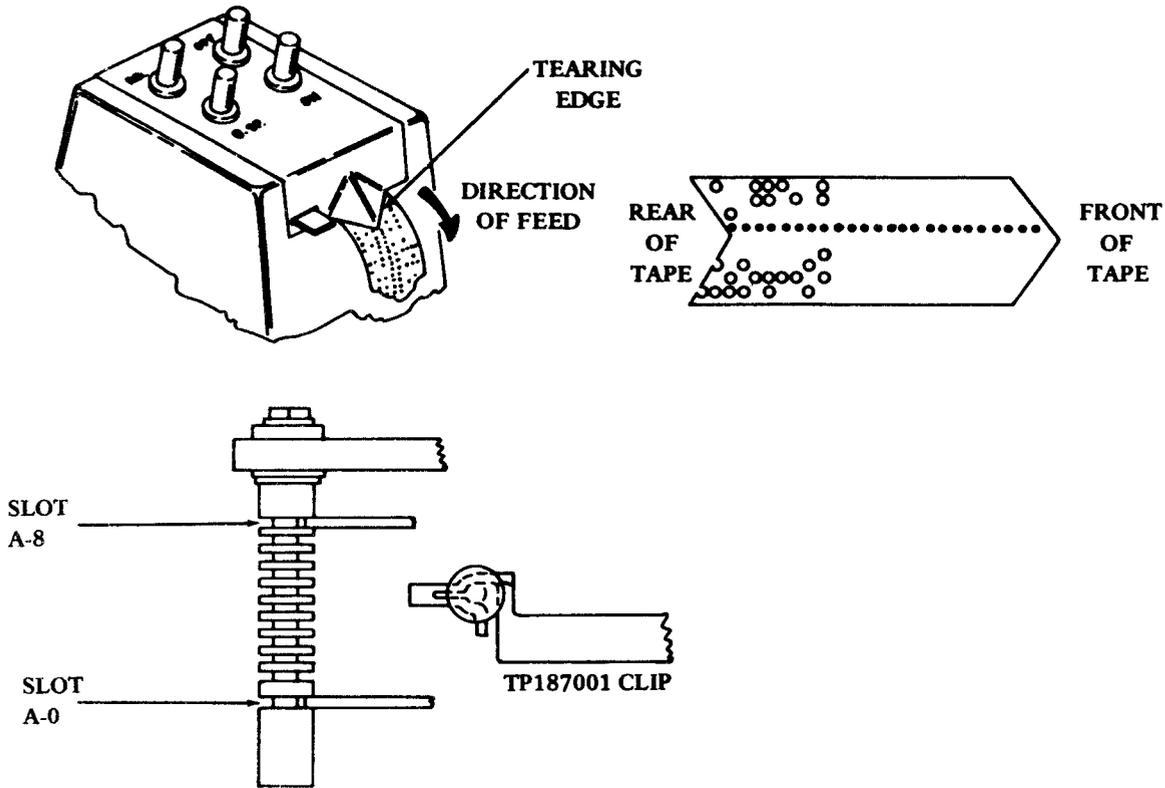

Figure 12 - Model 33 Auto/Manual Tape Punch for 3300 Series Coded Sets
3.11 The tape punch for 3300 Series Coded Sets incorporates the customer activated option of automatic operation. The automatic option is activated by removal of the two factory installed TP187001 disabling clips (Figure 12) from slots A-0 and A-8. The manual controls are not disabled and may still be used for operation or to override the automatic functions if desired. The automatic